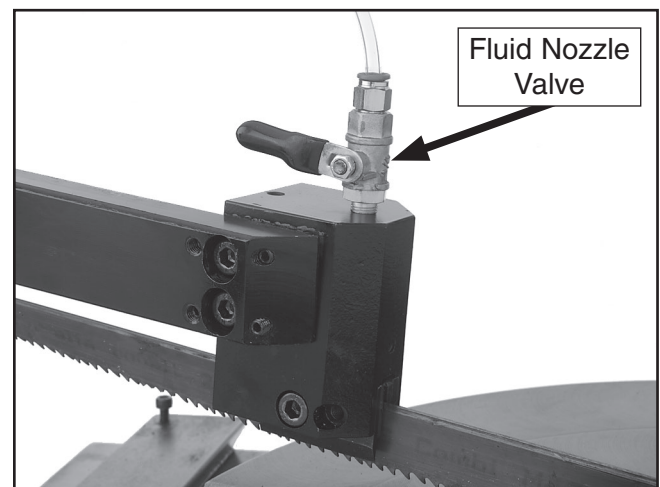

Figure 33. Cutting fluid control valve.
5. Turn the cutting fluid pump switch ( ) to the low pressure position (), and adjust the valves on the cutting fluid hoses to control the flow of cutting fluid (see **Figure 33**).